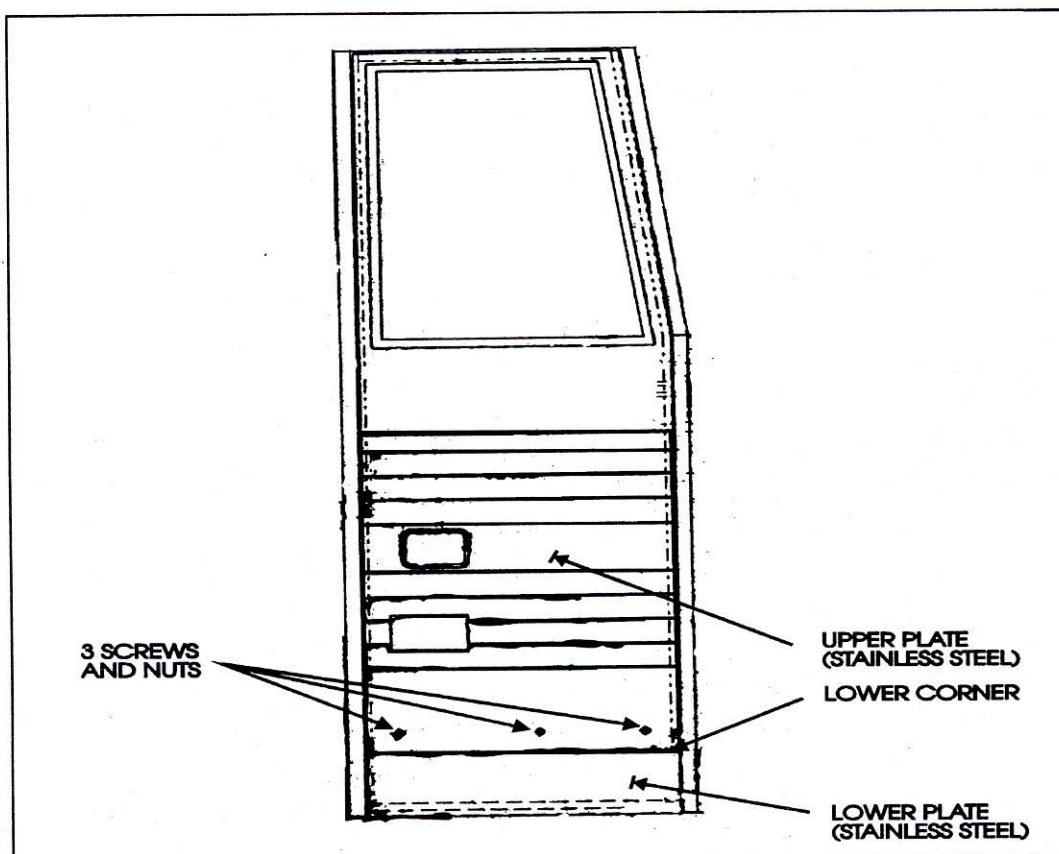

FIGURE 1: FRONT ENTRANCE DOOR ON XL VEHICLE SERIES
2. With the use of a large flat screwdriver and hammer, pry out and lift up one lower corner of plate (Fig. 1).
Note: If replacing both upper and lower stainless steel plates, join it together using three (3) stainless steel screws and nuts (Fig. 1).
Note: If replacing the upper plate only, join it together with the lower plate using three (3) stainless steel screws and nuts (Fig. 1).
10. Let stand for at least four (4) hours.